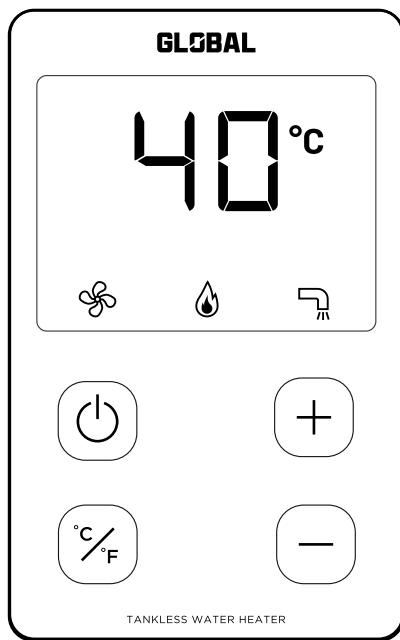

Fig. 1
- Make sure that the front edge of the opening is surrounded by a solid frame to firmly anchor the water heater. (Figure 1)